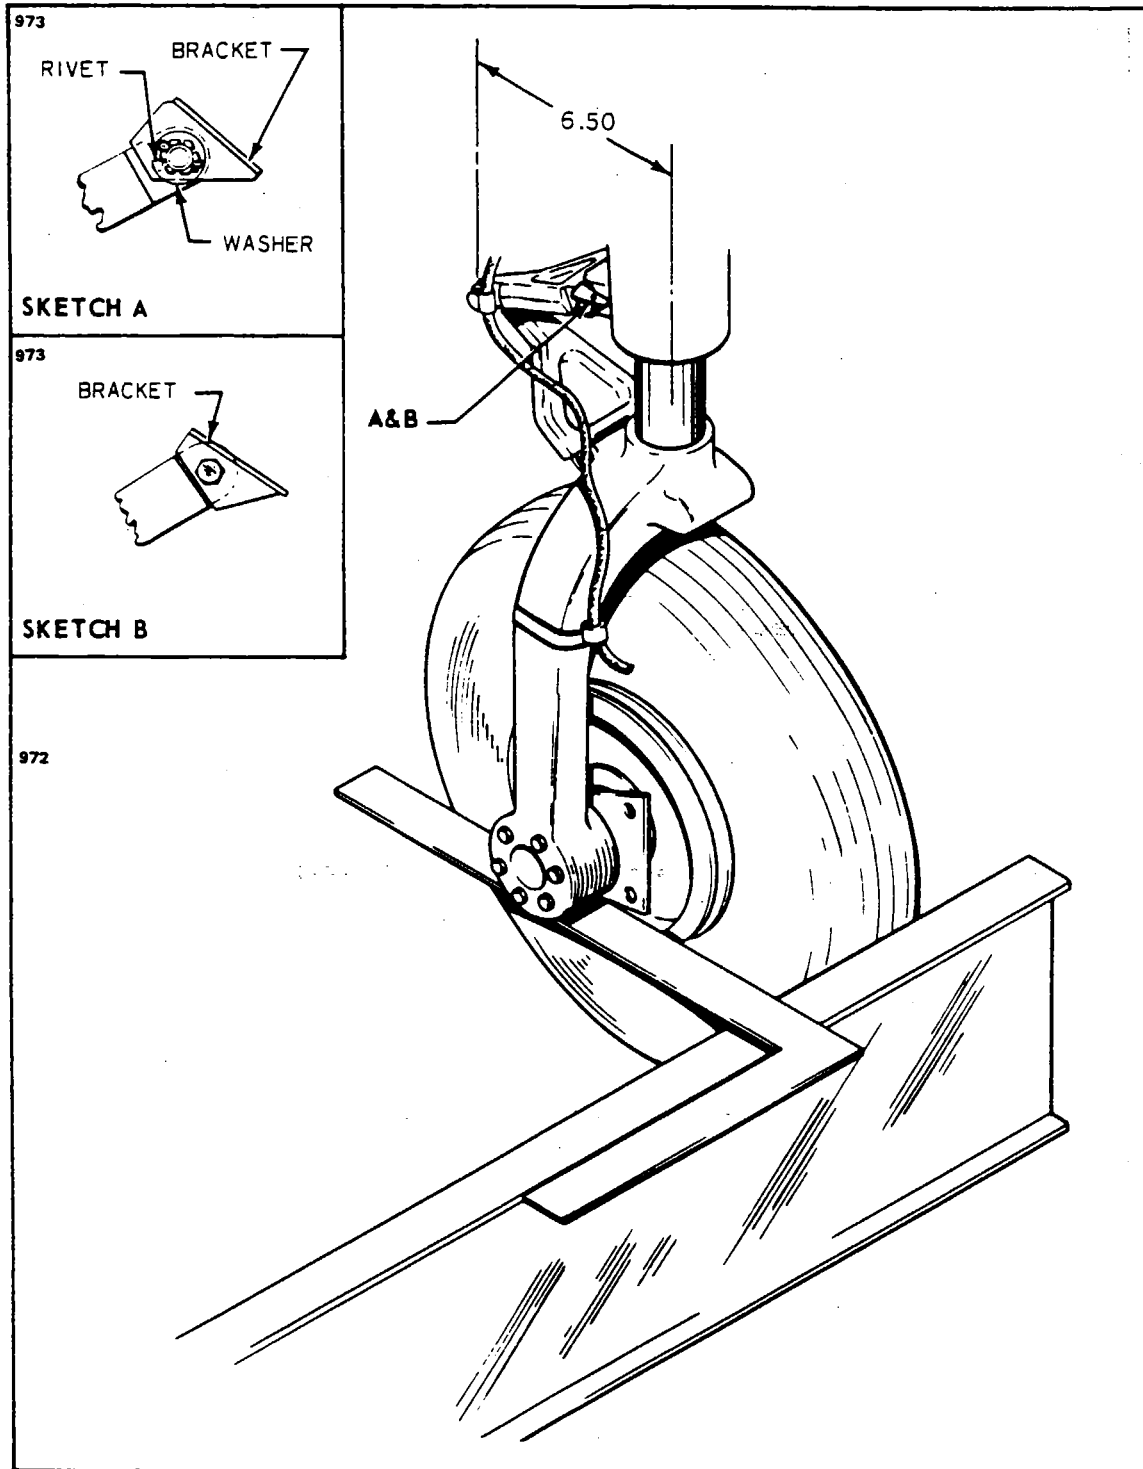

Figure 7-9. Aligning Main Gear
7-26. ALIGNMENT OF MAIN LANDING GEAR. (Refer to Figure 7-9.)
g. If a new link on the top left main gear had to be installed or it had to be reversed during the alignment check, it will be necessary to check the gear safety switch (squat switch) bracket for engagement and locking in place. If the large machine surface of the link is inboard, the bracket is mounted with the small rivet hole next to link. (Refer to Sketch A, Figure 7-9.) This hole should be aligned with centerline of the link and a .096 inch hole drilled .150 inch deep. Insert an MS20426AD3-3 rivet in the hole. This locking rivet is held in place by the flat washer, castellated nut and cotter pin. If link has to be reversed, then the bracket and bolt are also reversed. (Refer to Sketch B, Figure 7-9.)